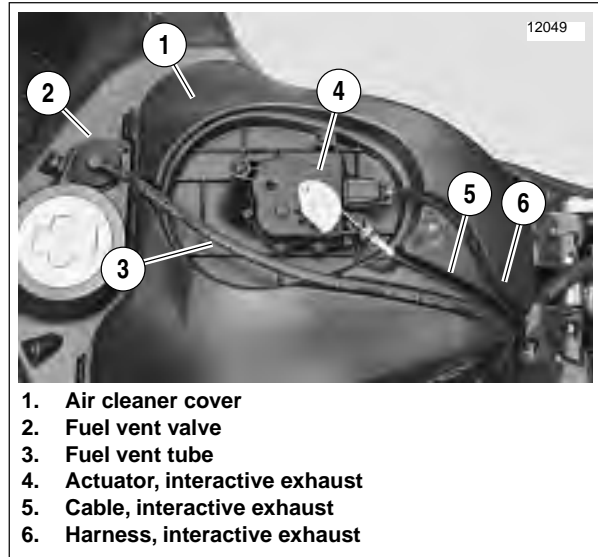

Figure 7-21. Air Cleaner Cover (XB12R)
6. See Figure 7-21. Disconnect harness connector [161B] from actuator (4).
7. Add free play to interactive exhaust cable (5), loosen jam nut and remove cable from bracket on actuator.